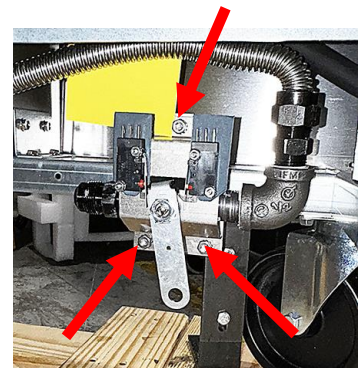

Figure 4
10. Reattach the plumbing assembly removed from the plate in step 7, to the plate mounted in the previous step, using the three (3) nuts removed in step 7 (see Figure 4).